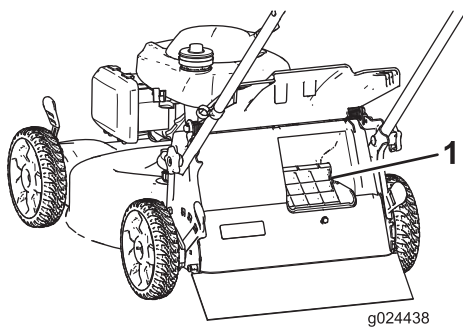

Figure 21
**Important:** For proper operation, remove any grass clippings and debris from the bag-on-demand door and the surrounding opening (Figure 21) before you move the bag-on-demand lever from one position to another.